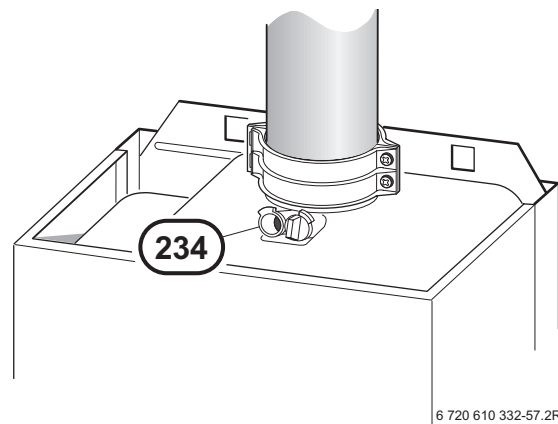

Fig. 41
- Switch on the appliance at the master switch (I).
- Unscrew sealing plug from flue gas testing point (234). Refer to fig. 41.